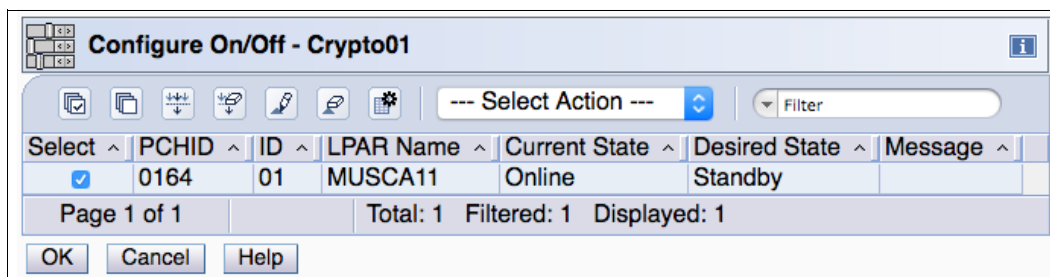

Figure 10-29 Configure On/Off (Online to Standby)
3. After you confirm that the state for your requested cryptographic channel is Standby, click **OK** (see Figure 10-29).